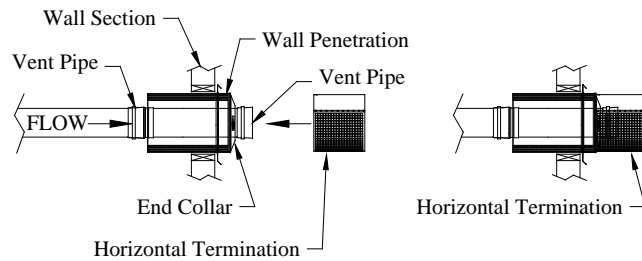

Fig 14. (Wall Penetration & Horizontal Termination)
- The Termination may be easily removed for inspection of the venting system (See Fig 14).